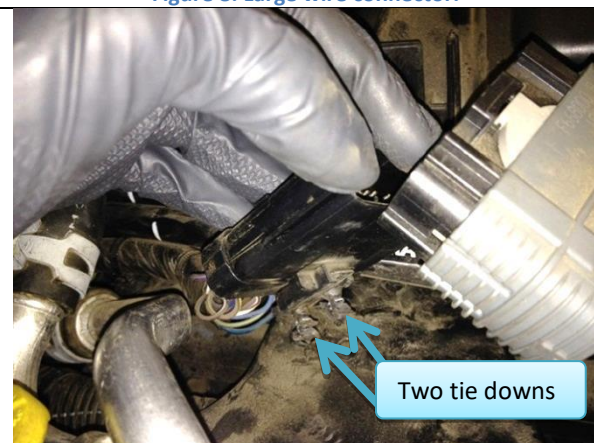

Figure 9: Wire connector tie downs.
- 7.3. Release two tie downs under large wire connector (Figure 9)